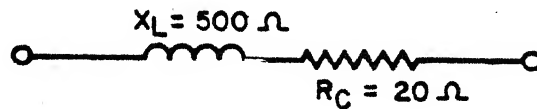

Figure 6
The Q of an inductor, tank, or loaded circuit expresses the relationships between inductive reactance (X_L), capacitive reactance (X_C), and resistance (R). The Value Q , or quality, represents the ratio of "energy stored/energy used". Figure 6 shows the inductor equivalent for X_L and R_c (coil resistance).